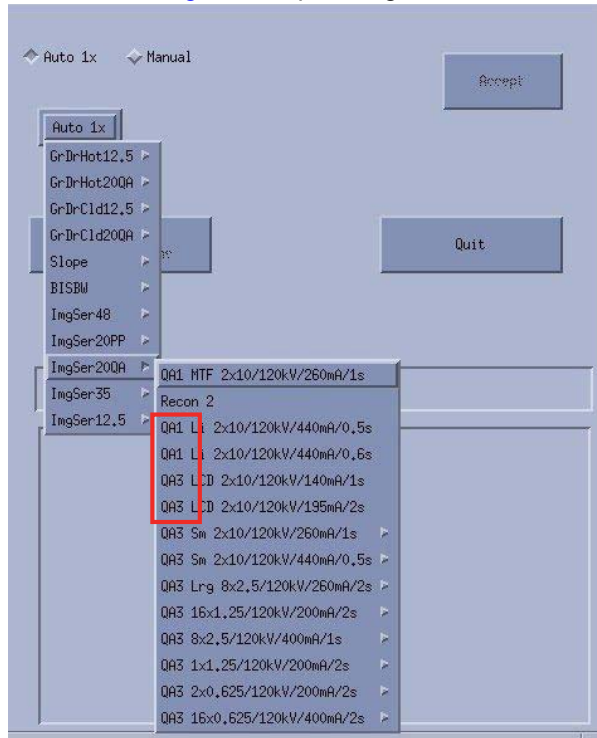

Figure 7-4 Auto 1x without QA2 Protocol
- If Scan Protocol shown as Figure 7-4, please go to Section 6.5.2